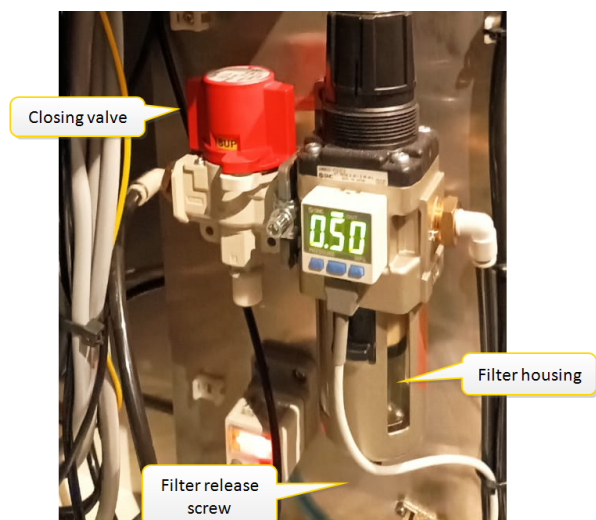

Figure 4-29 Checking the pneumatic filter for water or oil
3. Check if the filter housing contains droplets of air or oil, see in Figure 4-29.